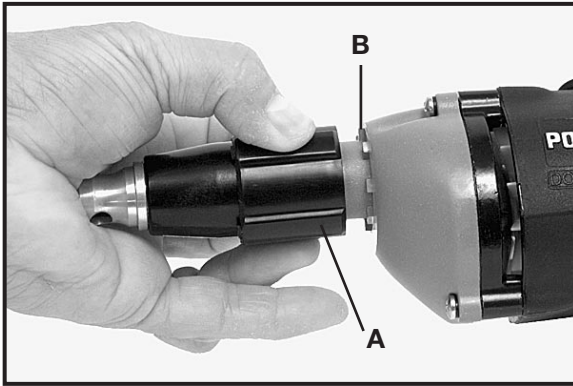

Fig. 3
1. While holding locking collar (A) Fig. 3, forward away from power unit turn depth stop assembly until end of bit extends  $\frac{3}{32}$ " beyond end of depth stop. Do not push in on bit as this will engage internal drive.
2. Release locking collar being sure notches engage projections (B) Fig. 3, on gear housing.